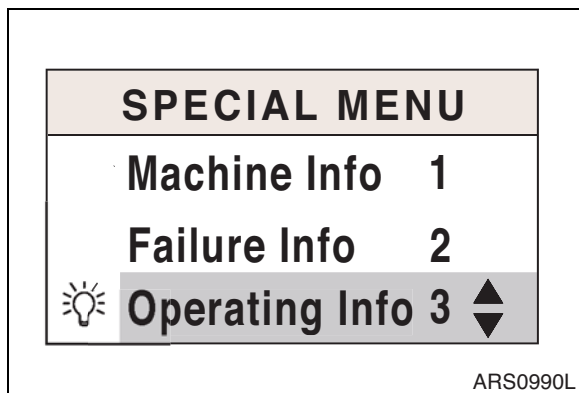
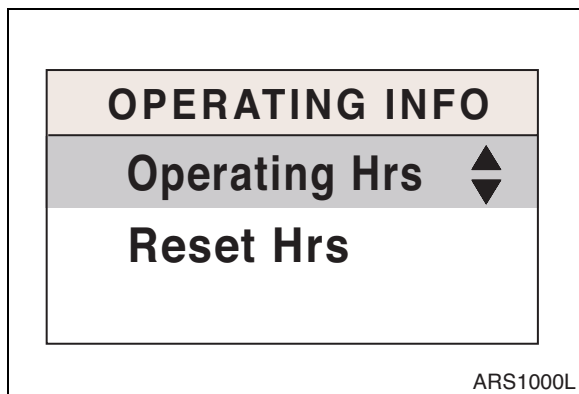

Figure 37
Figure 38
- A. Entering Submenus: When a cursor is in "Operating Info" of special menu screen (Figure 37) press enter button (↵, 3 on Figure 18) and "Operating Info" screen will be displayed (Figure 38).
- B. Information screen of machine operation (Figure 38).